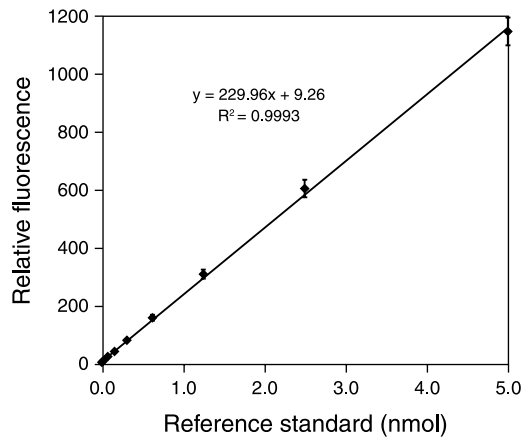

Figure 1. Standard curve for fluorescent reference standard.
- 5.1 Generate a standard curve by plotting the fluorescence of the fluorescent reference standard on the y-axis versus the amount on the x-axis. Figure 1 shows a typical standard curve for this assay.